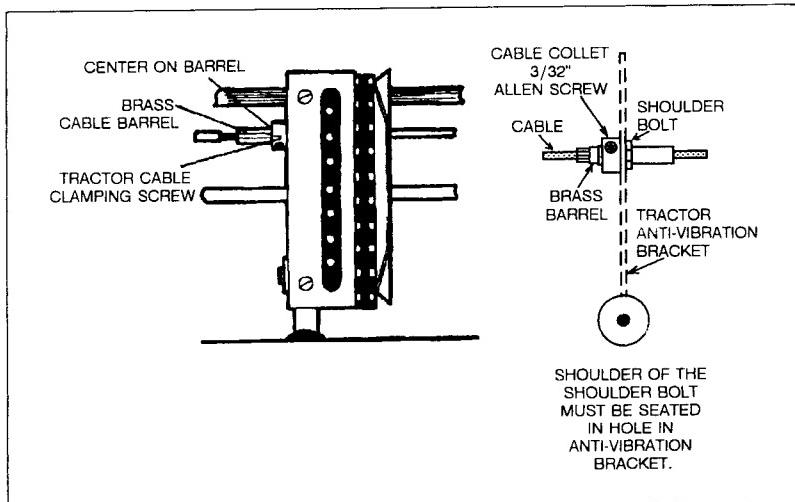

Figure 6-36. Positioning Tractors on Cables
- a. Switch the printer offline and the ON/OFF switch to the OFF (0) position.
- c. Loosen the 3/32" Allen screw from the split collars and unscrew the split collar from the split nut on both upper and lower RIGHT tractors (see Figure 6-36, detail D).
- d. Loosen the 3/32" Allen screw from the split collars and unscrew the split collar from the split nut on both upper and lower LEFT tractors (see Figure 6-36).